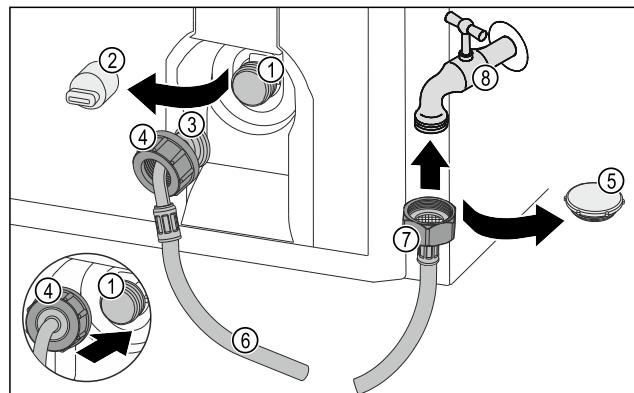

Fig. 22
- ▶ Remove the closure cap Fig. 22 (5).
- ▶ Place the straight end of the hose Fig. 22 (7) on the tap Fig. 22 (8).
- ▶ Tighten the nut at the straight end of the hose Fig. 22 (7) in a clockwise direction.